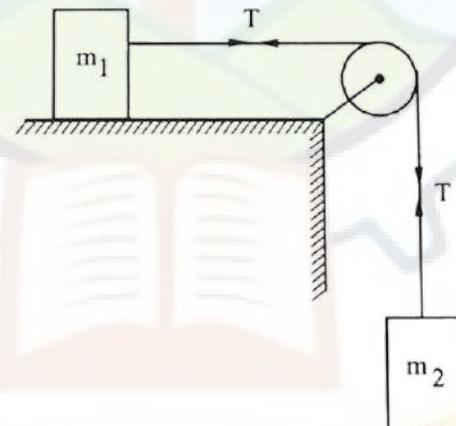

Figure 12
- (b) A block of mass 80 kg rests on a horizontal plane as shown in Figure 12. Find the magnitude of force P required to give the block an acceleration of  $a = 4 \text{ m/s}^2$  to the right. The coefficient of friction between the block and the plane is 0.30. (7 marks)